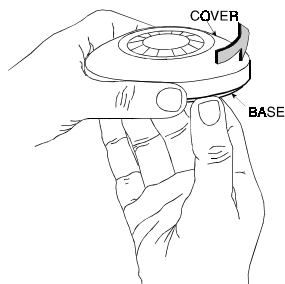

Figure 3 - Installing the Cover
- D. Mount the base (equipped with the printed circuit board) in the location selected for optimum coverage. Using the two mounting holes at the back of the base fasten the unit firmly to the mounting surface to avoid possible vibrations. (Figure 3).